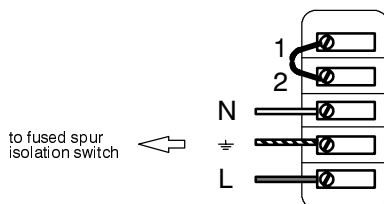

fig. 3.6
- 1 Connect the electrical supply cable coming from the fused spur isolation switch to the terminal block for the boiler (fig. 3.6) keeping the